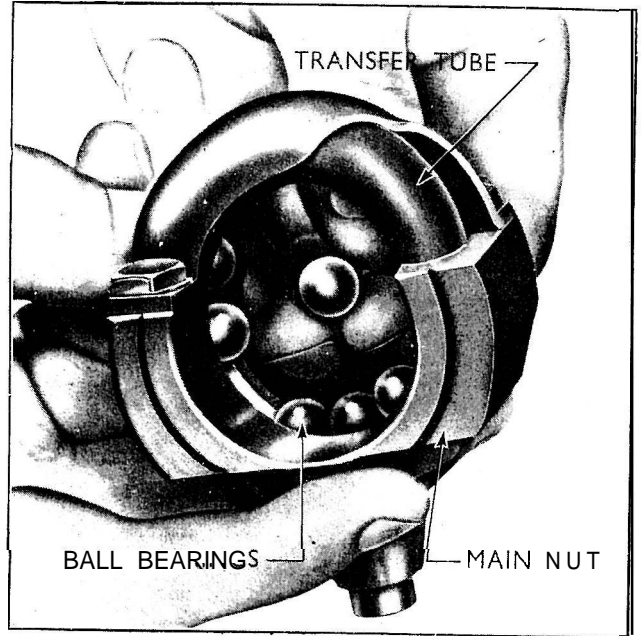
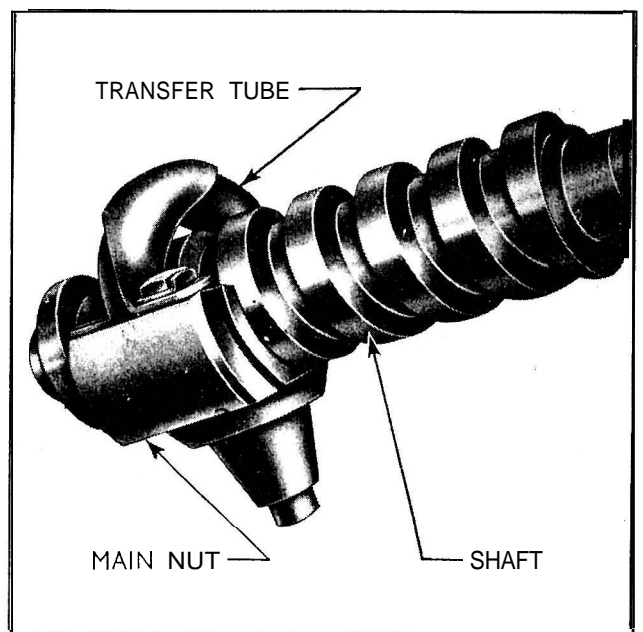

Fig. 217
Fig. 218
- 3 Using clean grease in the main nut groove to retain the balls in position, feed the fourteen ball bearings into the tube (see Fig. 217) and assemble the nut to the steering shaft worm (see Fig. 218).